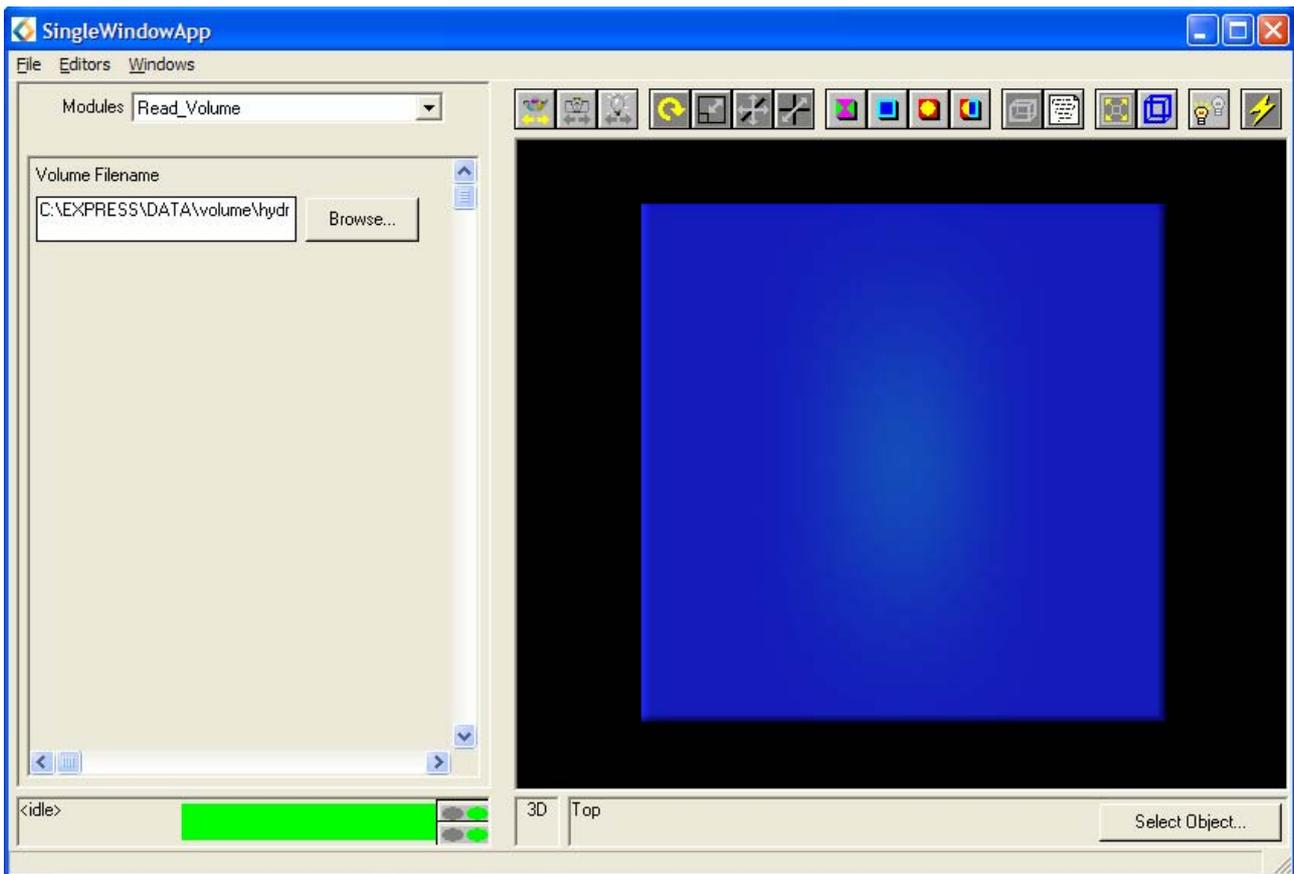

Figure C.11: Image Created by the ImportWizard
- The DataViewer window should display an image similar to that shown in Figure C.11.